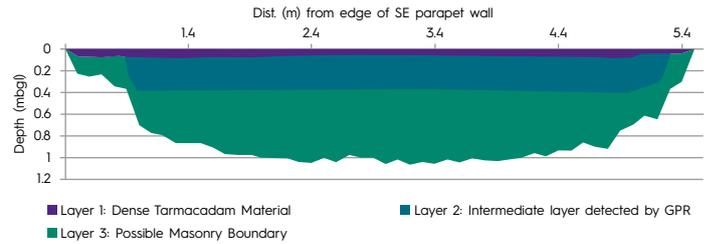

Figure 4: Cross sectional model of upper layers of the bridge
- Transverse lines across the bridge shown in figure 3 enabled a cross sectional model of the bridge to be produced, as shown in figure 4
- Various anomalies in the bridge make up were identified, the cause of each anomaly could not be explained using the GPR alone but these highlight important target areas for further investigation during the site investigation (SI) phase